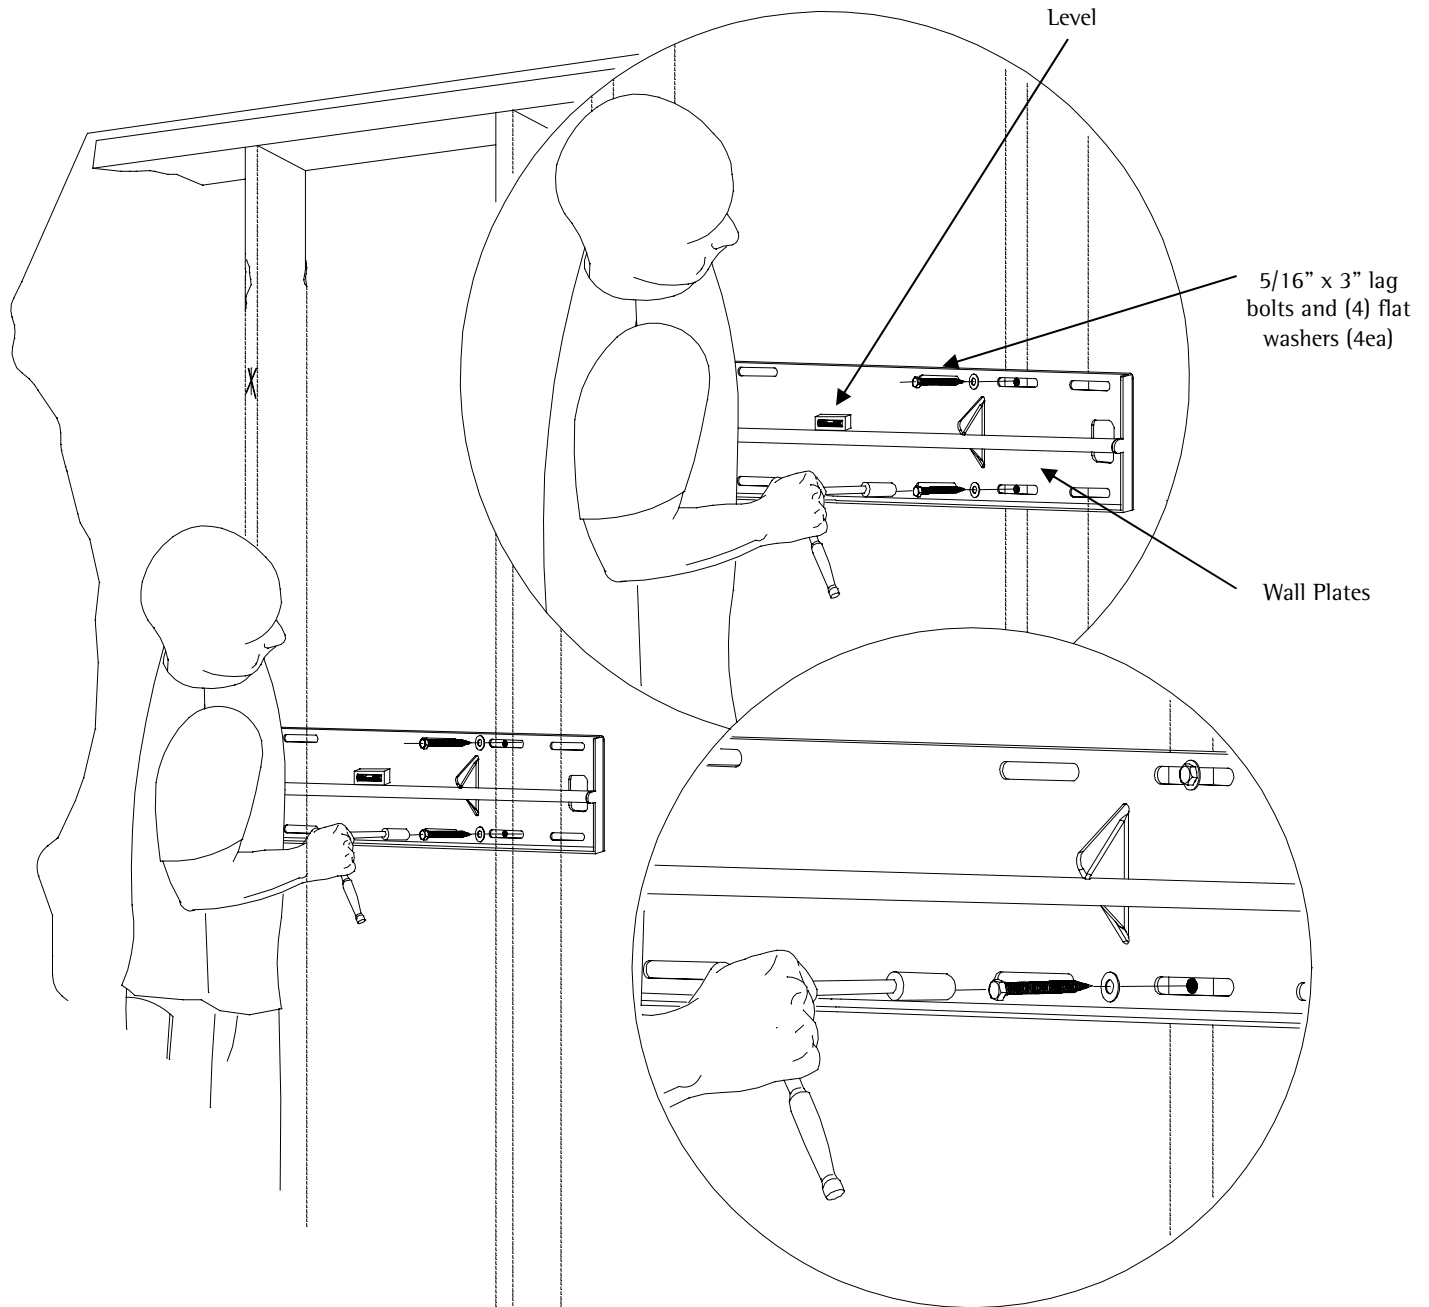

Figure 13
8. Secure the plate using the eight (8) 5/16" lag bolts and flat washers (supplied) – (Figure 13).